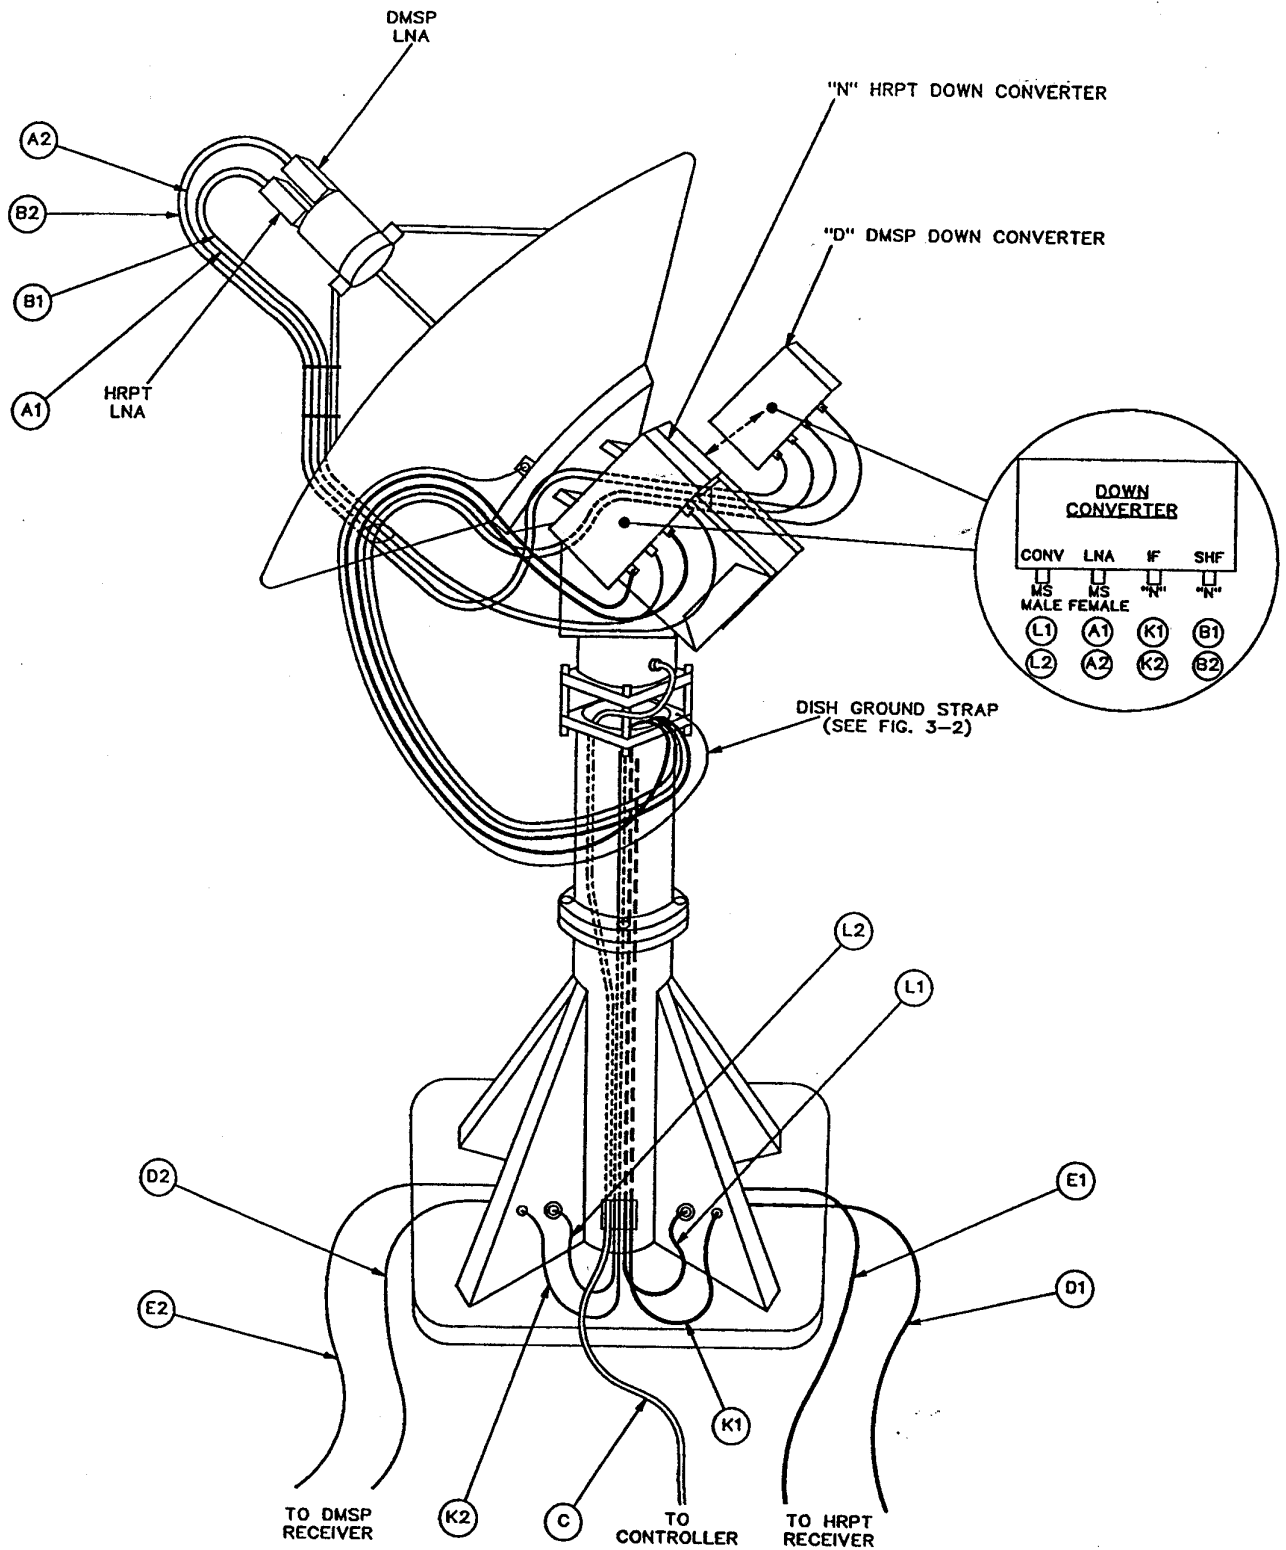

Figure 3-1, THRPT-2-H/D System Cable Interconnect Diagram
Interconnection of the hardware is largely accomplished in the manner of standard personal computer interconnection, with the exception of the remote antenna and positioner assemblies. A complete set of color photographs of each new system in operation at Telonics prior to shipment is provided for use in conjunction with Figure 3-1, "System Cable Interconnect Diagram", to assist the user during initial assembly and system operational tests. Please refer to Figure 3-1 and the example photographs while performing the operations detailed in the following paragraphs. For clarification, the Earth Station receiving system is broken down into three sub-systems. The interconnections for each subsystem are discussed in the following paragraphs:
- a. Five (5) long system interface cables, (D1), (D2), (E1), (E2) and (C).
- b. The antenna assembly proper requires four short cables to interconnect the LNAs and down-converters, (A1), (A2), (B1) and (B2). (Please refer to Page 7, Figure 3.1, System Cable Interconnect Diagram).